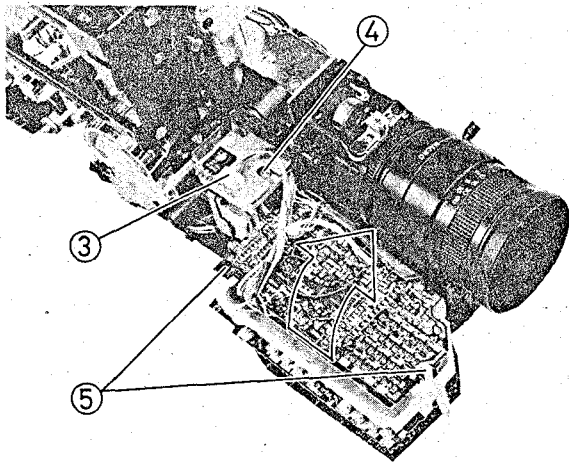
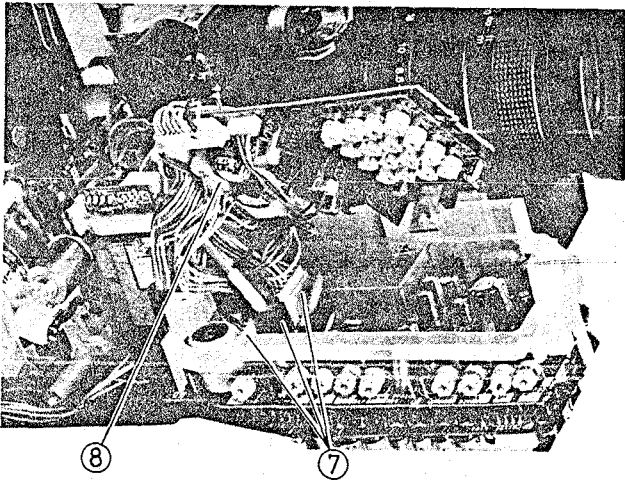

Fig. 2-24 Deflection Circuit Board Removal
Fig. 2-25 Deflection Circuit Board Removal
3. Disconnect connector CN1525. (See Fig. 2-24)
4. Remove one (1) screw holding the heat sink of the 8V regulator circuit board and remove the heat sink.
5. Remove one (1) rivet and release one (1) tab holding the regulator circuit board.
- Note: When the description "Open the regulator circuit board" is given in the disassembly hereafter, the screw in item 4 need not to be removed.
7. Disconnect three (3) connectors (CN1311, CN1312, CN1313) on the deflection circuit board. (See Fig. 2-25)
1. Open the regulator circuit board. (See Fig. 2-24)